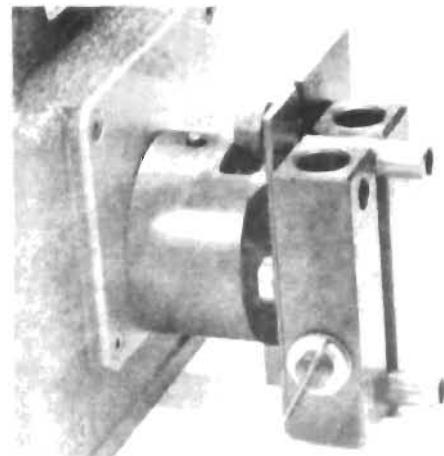

Fig. 24
3. With pins assembled in setting fixture, place against support with "TOP" up and with roller flange engaging slot in top of support. (Fig. 24).